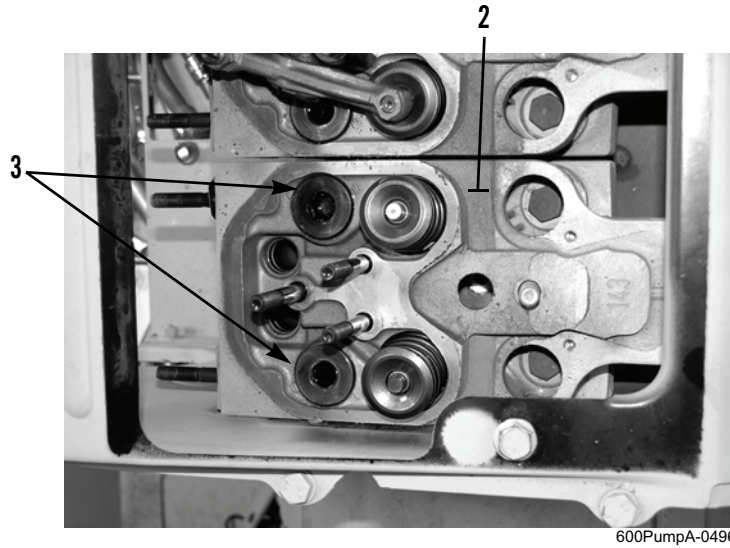

Figure 2. Screw Plugs.
2. Remove two screw plugs (Figure 2, Item 3) from cylinder head (Figure 2, Item 2).